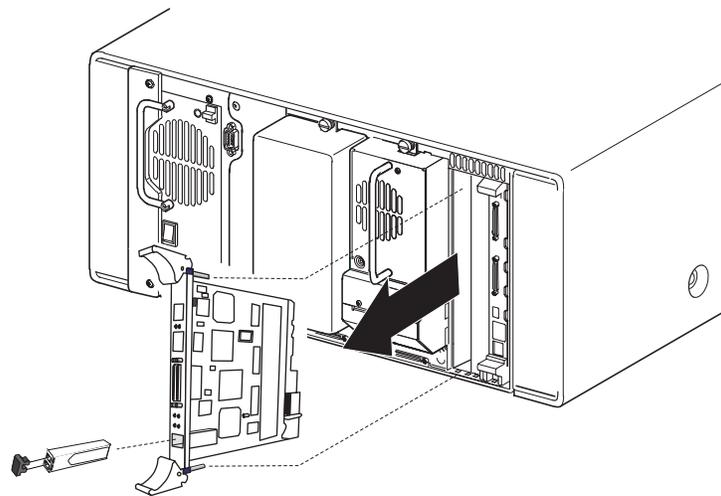

Figure 78. Removing the FCO card
2. Power off the library using the touch screen and then switch the master power switch on the power supply at the rear of the module to the off (0) position.
7. Pull the FCO card out of the card cage, as shown in Figure 78.